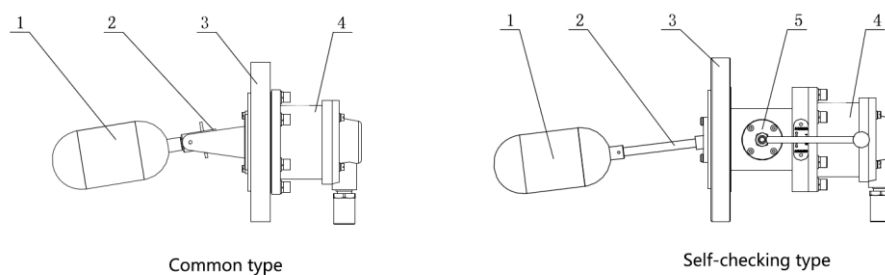

Figure 1
2.1 Main Structure of Product-Figure 1